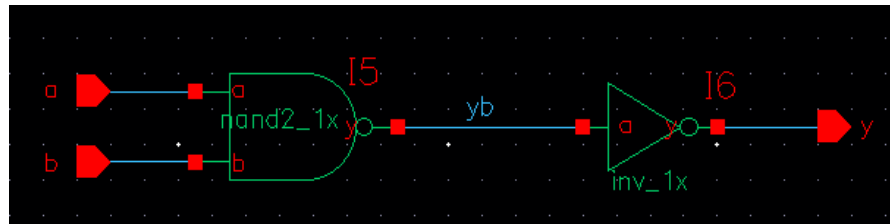

Figure 12: and2_1x schematic
- Wire the two gates together and **create** ports on inputs **a** and **b** and output **y** as shown in Figure 12. Name the wire between the two gates. In Figure 9, we named it **yb**.